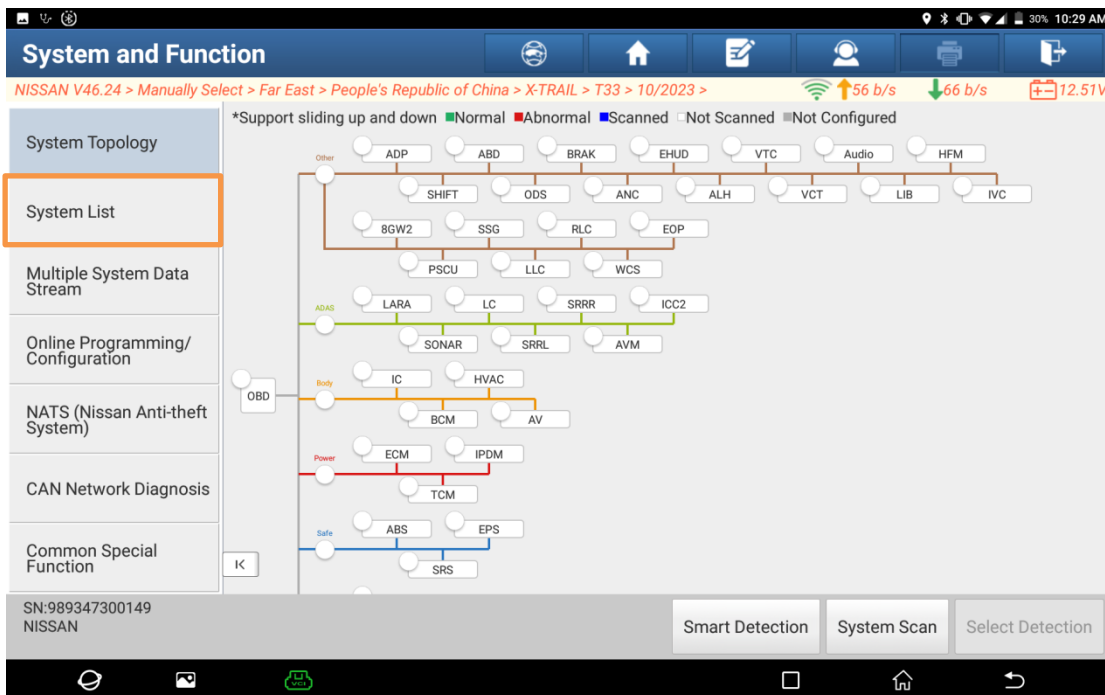
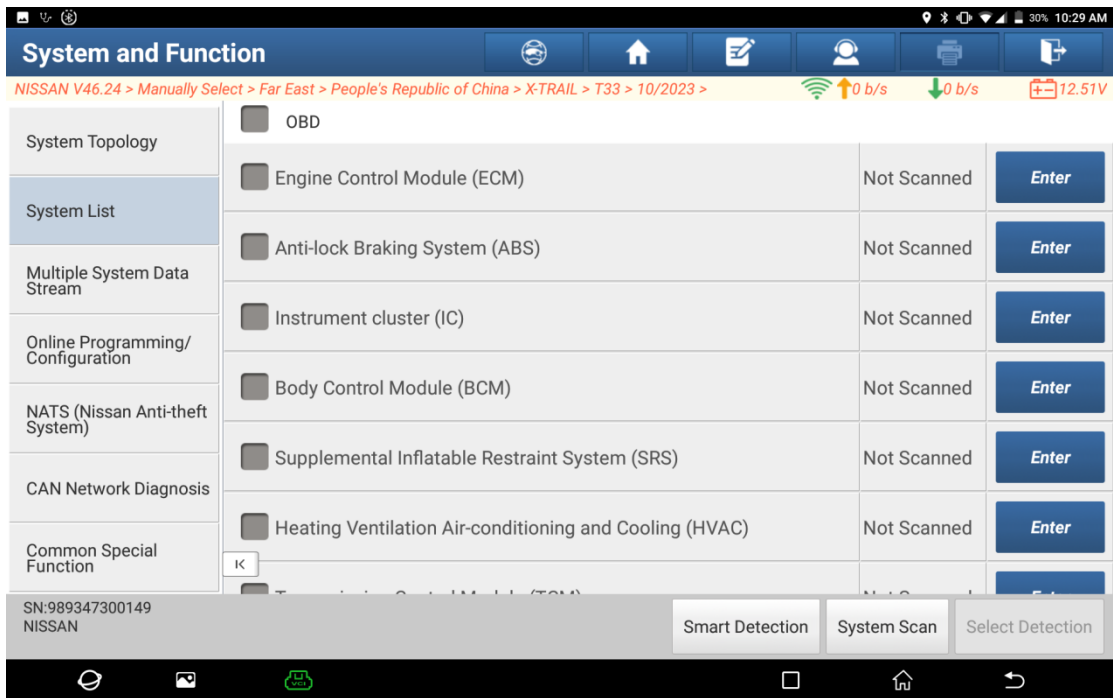

Figure 6
Figure 7
- On the vehicle model system interface (Figure 6), click [System List] to enter the system list menu interface (Figure 7).